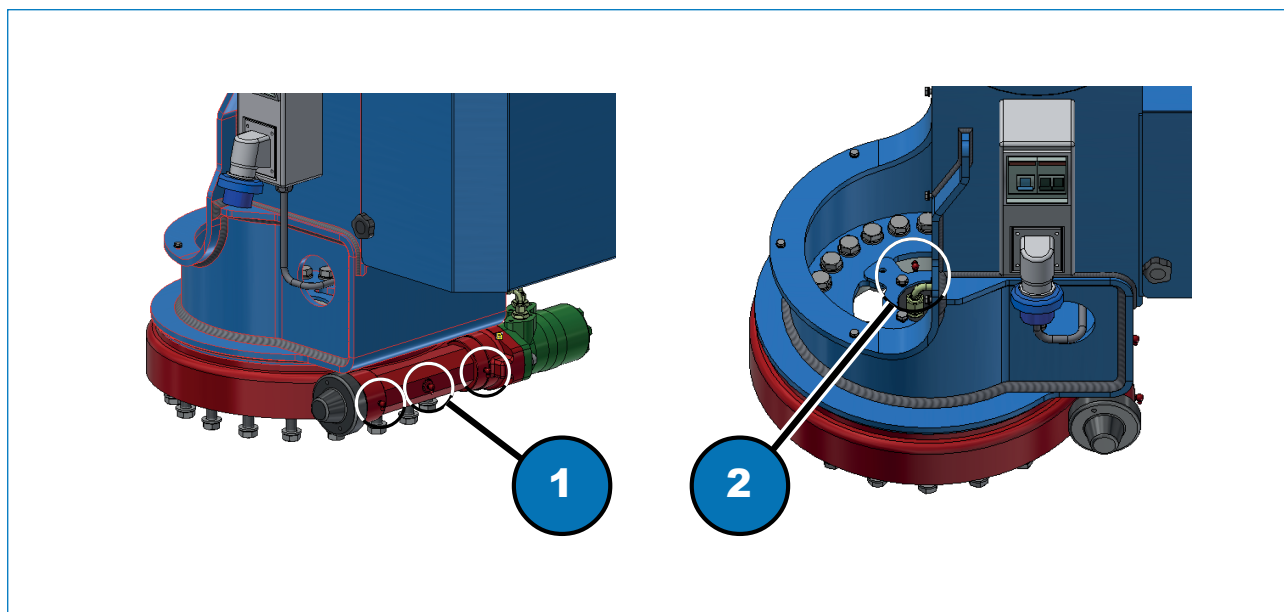

Fig. 8.9
The special adjustable blocks (Fig. 8.9, 1) help reduce sliding friction when the boom is extended:
- tighten the adjusting nuts (Fig. 8.9, 2) until coming into contact with the removable inner boom;